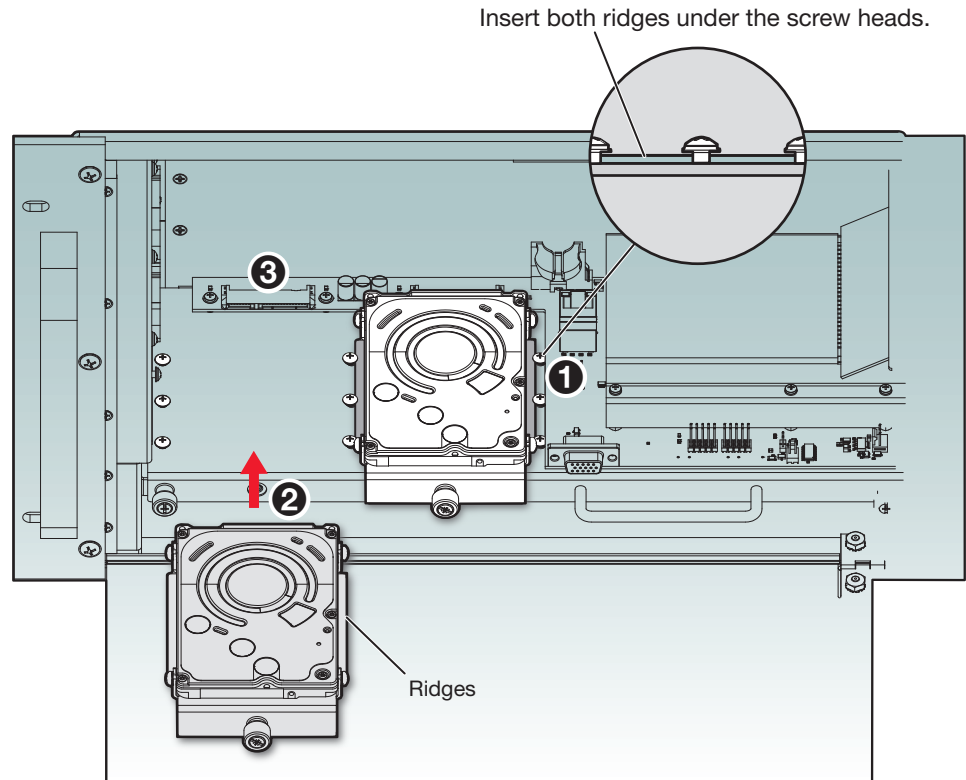

Figure 112. Inserting the Hard Drives
3. Grasp the thumbscrew firmly and pull the drive straight toward you until it is free (❷).
4. Insert the replacement drive so that the right and left edges pass under the inside edges of the three screws on the right and left sides of the drive (see figure 112, ①).